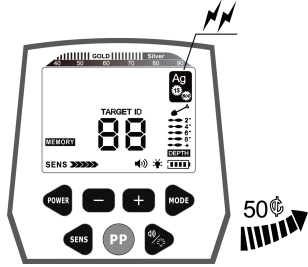

Fig.13
- d. When sweeping the 50¢ silver coin, the detector responds, indicating that the detector has memorized the 50¢ silver coin. When sweeping the other five samples, the detector does not respond. (see Fig.13, take the 50¢ silver coin as an example)